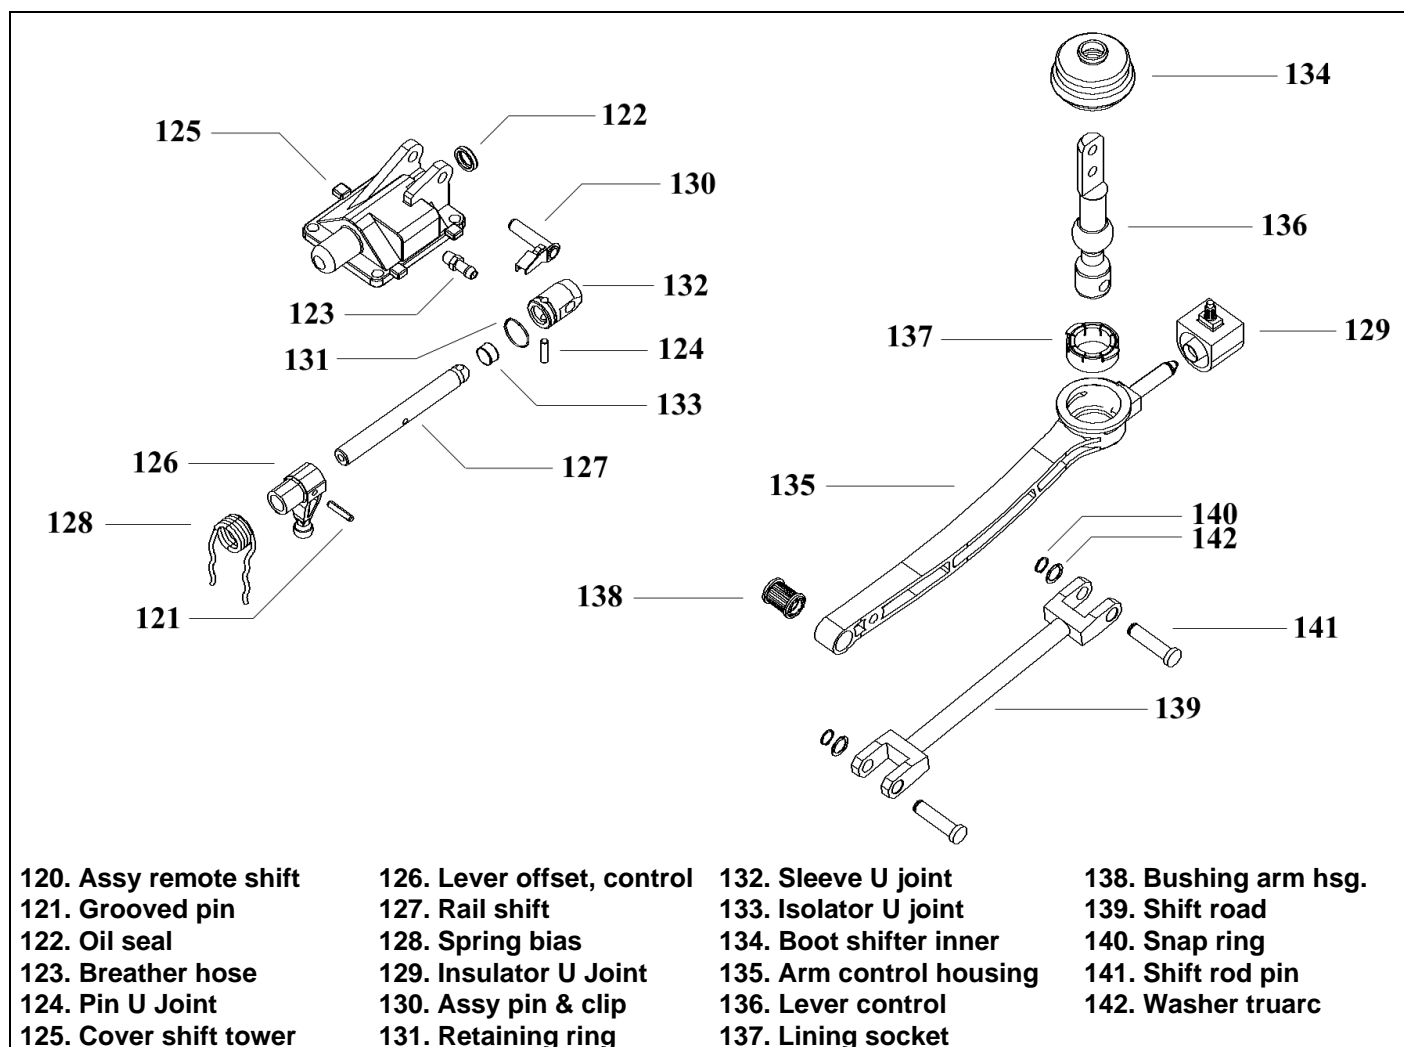

Figure 3-2. T5 WC Control Semi-Remote
Failure to shift transmission into neutral at 3-4 position before removing control lever and housing assembly may result in driving roll pin (15, figure 3-2) into detent guide plate (18) when pin is removed (paragraph 3-8).
- c. Remove screws (2). If extended control lever and housing assembly (3C) is used, also remove screws (2A).
- d. If necessary, use suitable knife to break sealant bond between control lever and housing assembly (2A, 3B, or 3C) and extension (17A) or adapter (17B). Remove control lever and housing assembly. Remove boot (4) only if replacement is required.
- f. As used, remove neutral switch (6), pin (7), harness retainer (8), screw (9), speedo adapter (10) roll pin (11), speedo driving gear (12) oil seal (13) and o-ring (14).
3-8. REMOVAL OF T5 WC CONTROL SEMI-REMOTE. This only applies to transmission equipped with semi-remote control. With the transmission placed on a work bench, disassemble the semi-remote control following these steps: (see figure 3-2)